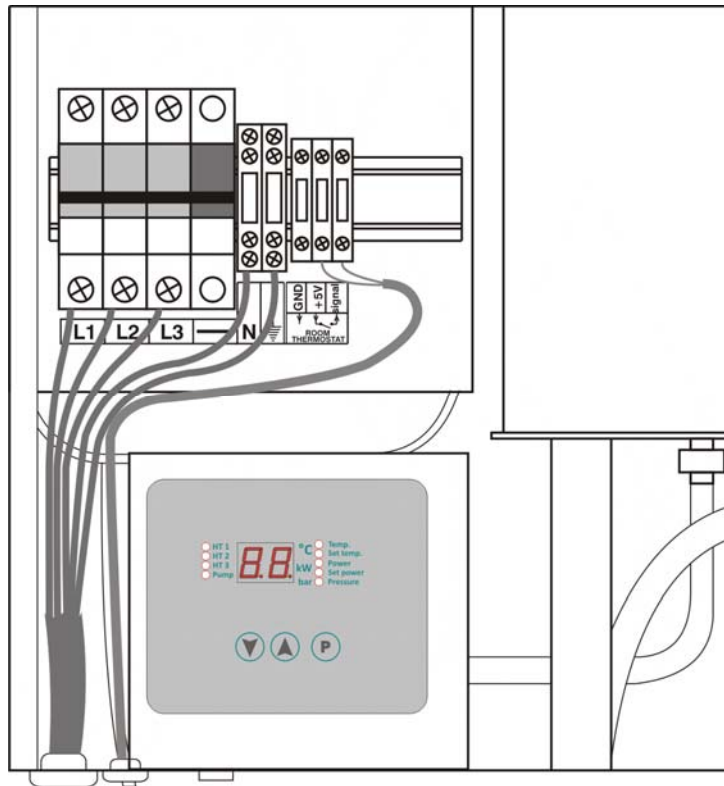

Figure 7: Scheme for connecting power cable
- Commencing should be performed according to the mounting scheme as given in the Figure7.